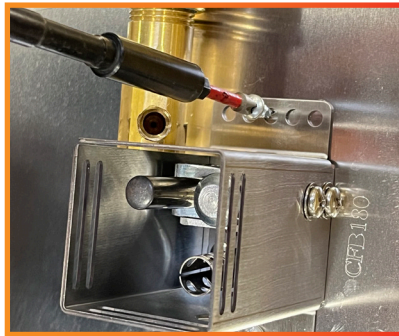

Figure 5: Securing the Wind Cage to the Plate/Pan
2.5 Once the wind cage is properly aligned, use the self-tapping screws to secure the wind cage to the plate or pan. **{See Figure 5}**